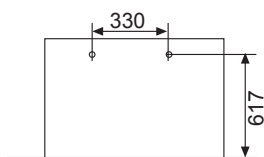

Fig2
- According to the dimension of the figure 2 shown, nail two cement steel nails on the wall,Keep 2~3 mm out.then hang the back of the unit on them.